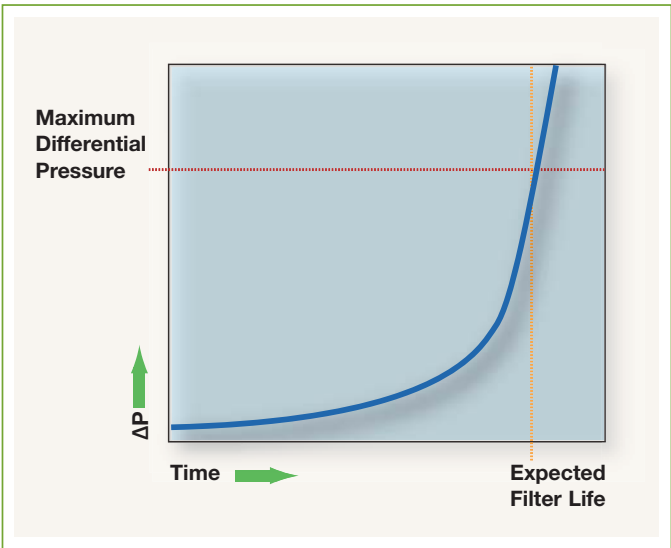

Figure 2: Type of graph used to plot data
- 10. Plot the data using the sample graph in Figure 2 as a guide.